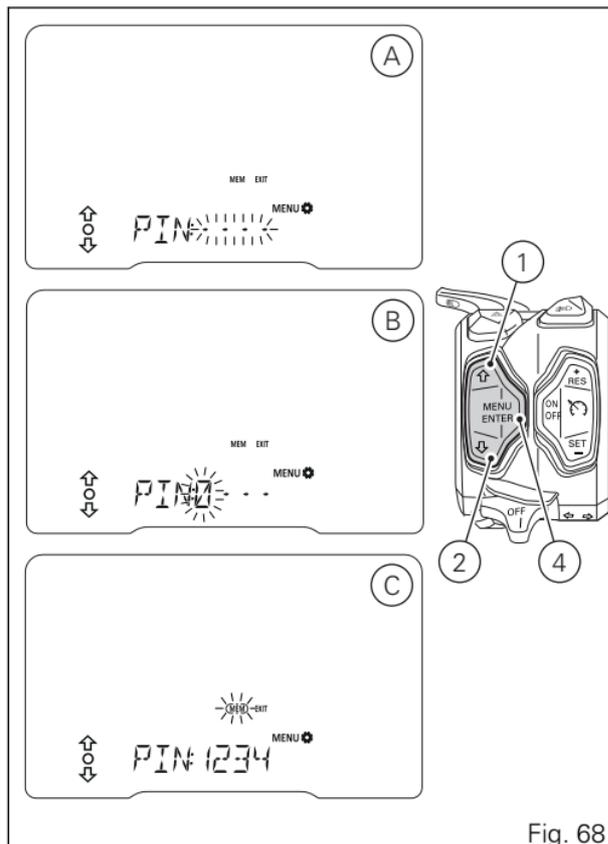

Fig. 68
When you press button (4) to confirm the fourth and last digit, the MEM item frame (C) is flashing (Fig. 68).
- select EXIT (flashing frame) and press button (4) to quit without saving the PIN CODE;
- select every figure (flashing) of the set code and press button (4) to edit them and repeat the code entry procedure;
- select MEM (flashing frame) (C, Fig. 68) and press button (4) to save the new PIN CODE.